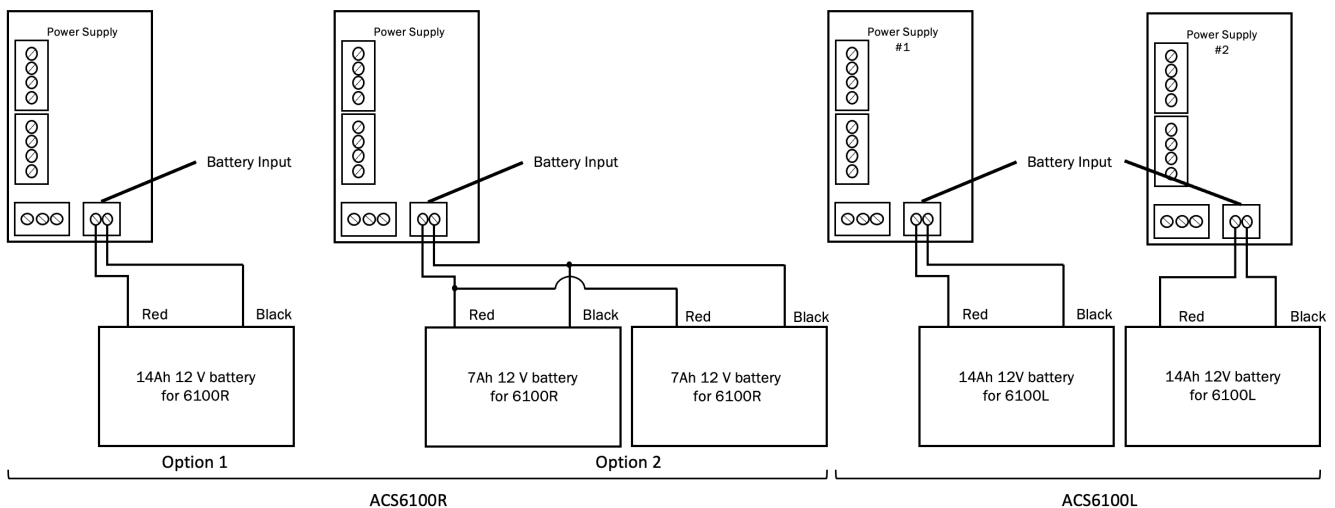

Figure 11 - Connect Battery Leads to Power Supply
- Wire E3, E4, E5, and E6 together as described above in Figure 11.